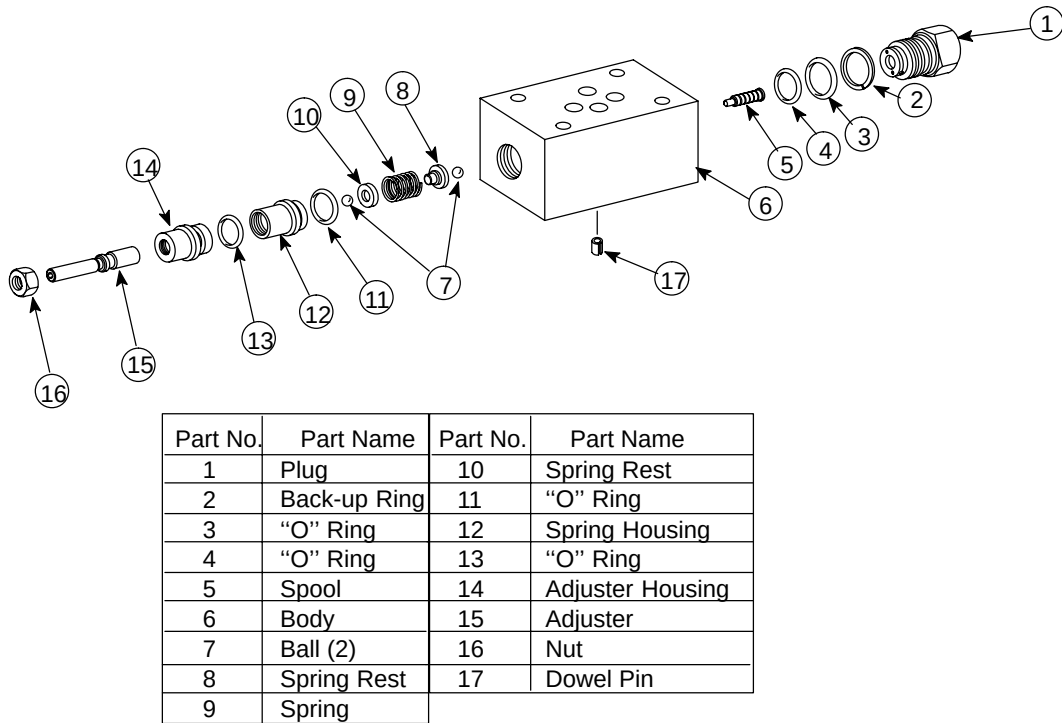

Figure 10. Reducer Module
3. Reducer Module (Fig 10): The reducer module is required for piloted models when pilot pressure exceeds 210 bar (3000 psi). These two-stage spool valves maintain a reduced outlet pressure against variations in inlet pressure. These valves are able to act as relief valves (at 50% of the maximum flow) to prevent excess pressure being developed when an actuator is subject to a reactive load.